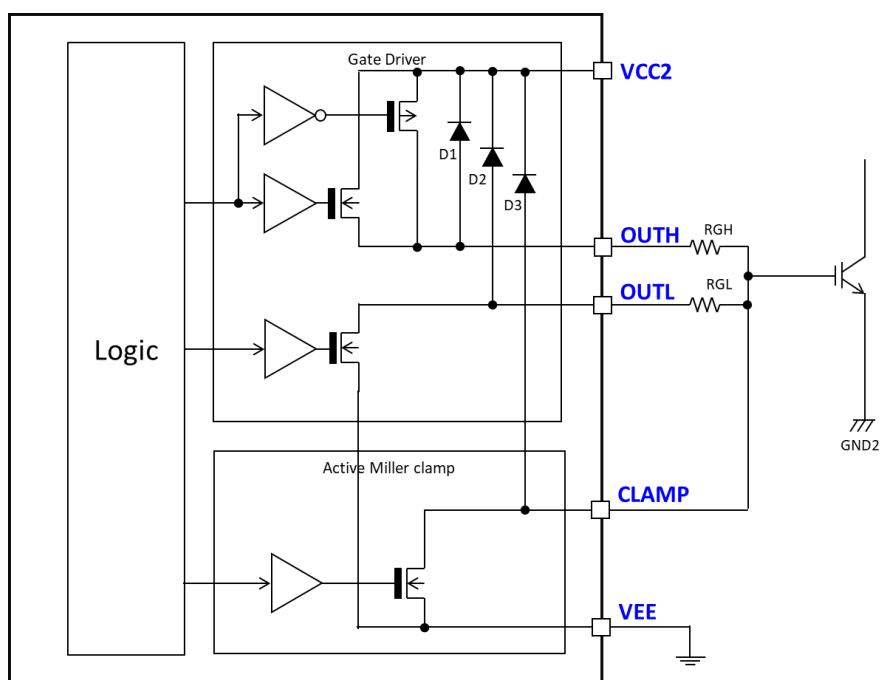

Figure 40 Block diagram of Short circuit clamping
- Short circuit clamping diodes can clamp the OUTH/OUTL/CLAMP pins to VCC2 + Vf when the short circuit event occur and the current input to the pins. (Figure 40)